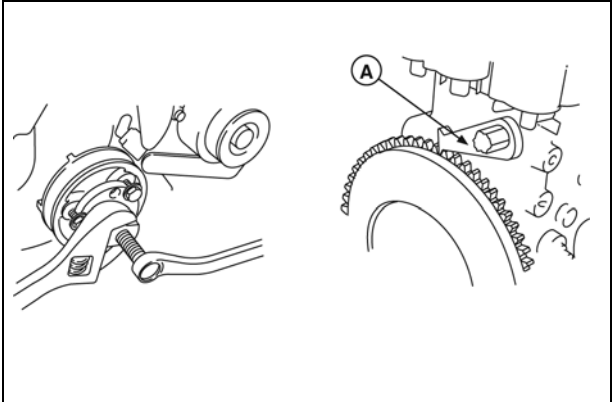

Figure 8
- 8. Remove bell housing adapter screw (if equipped) and install Flywheel Holder #19418 (A, Figure 8).